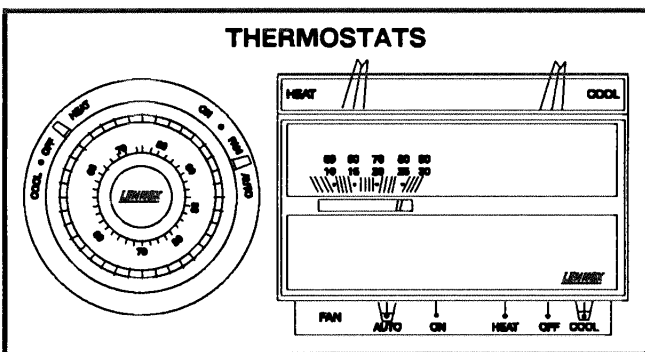

FIGURE 3
- 1- Set thermostat to lowest setting. See figure 3.
- 6- Wait five (5) minutes to clear out any gas. If you then smell gas, STOP! Immediately call your gas supplier from a neighbor's phone. Follow the gas supplier's instructions. If you do not smell gas go to next step.
- 10- Set thermostat to desired setting. See figure 3.